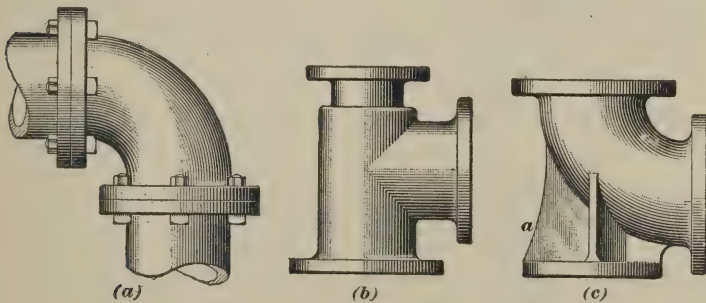

FIG. 50
**66.** Fig. 50 (a) shows a cast-iron **flanged elbow** connected to two pipes; a **reducing flanged tee** is shown in
Fig. 50 (*b*); Fig. 50 (*c*) shows a so-called **base elbow**, which has a bracket *a* with a wide base cast on it. This kind of elbow is used at the bottom of a long run of vertical pipe, the base being placed on a masonry pier, or similar suitable foundation, in order to support the weight of the pipe above it. Nearly all kinds of fittings can be bought with flanges instead of tapped ends.